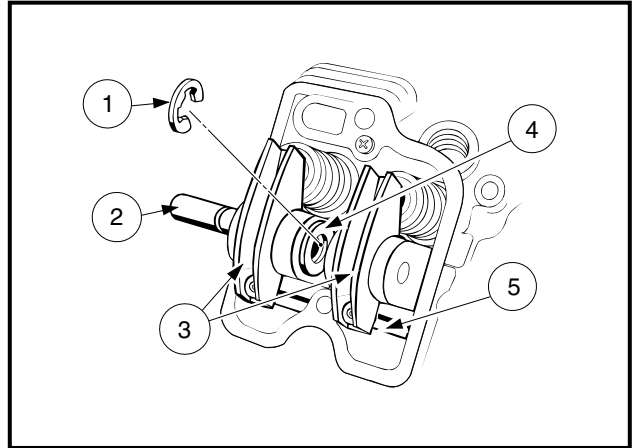

Figure 13-11 Remove Rocker Arms and Push Rods
NOTE: The FE350 and FE400 engines are equipped with hydraulic lifters, which automatically eliminate all clearance in the valve train. Therefore, the rocker arms (3) and the push rods (5) do not need to be put back in their original positions (**Figure 13-11, Page 13-11**).
2. Remove the E-ring (1) and pull the rocker shaft (2) out of the cylinder head (**Figure 13-11, Page 13-11**).
3. Lift out the rocker arms (3), washer (4), and push rods (5).